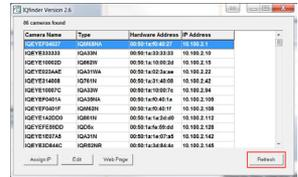

Figure 12.1
1. Download and install IQfinder from the Vicon website. Launch and scan for camera on the network by clicking the refresh button. The detected cameras will be displayed in the IQfinder window. Select a camera from the list and click "Assign IP" to edit the selected camera's network settings. Refer to Figure 12.1.